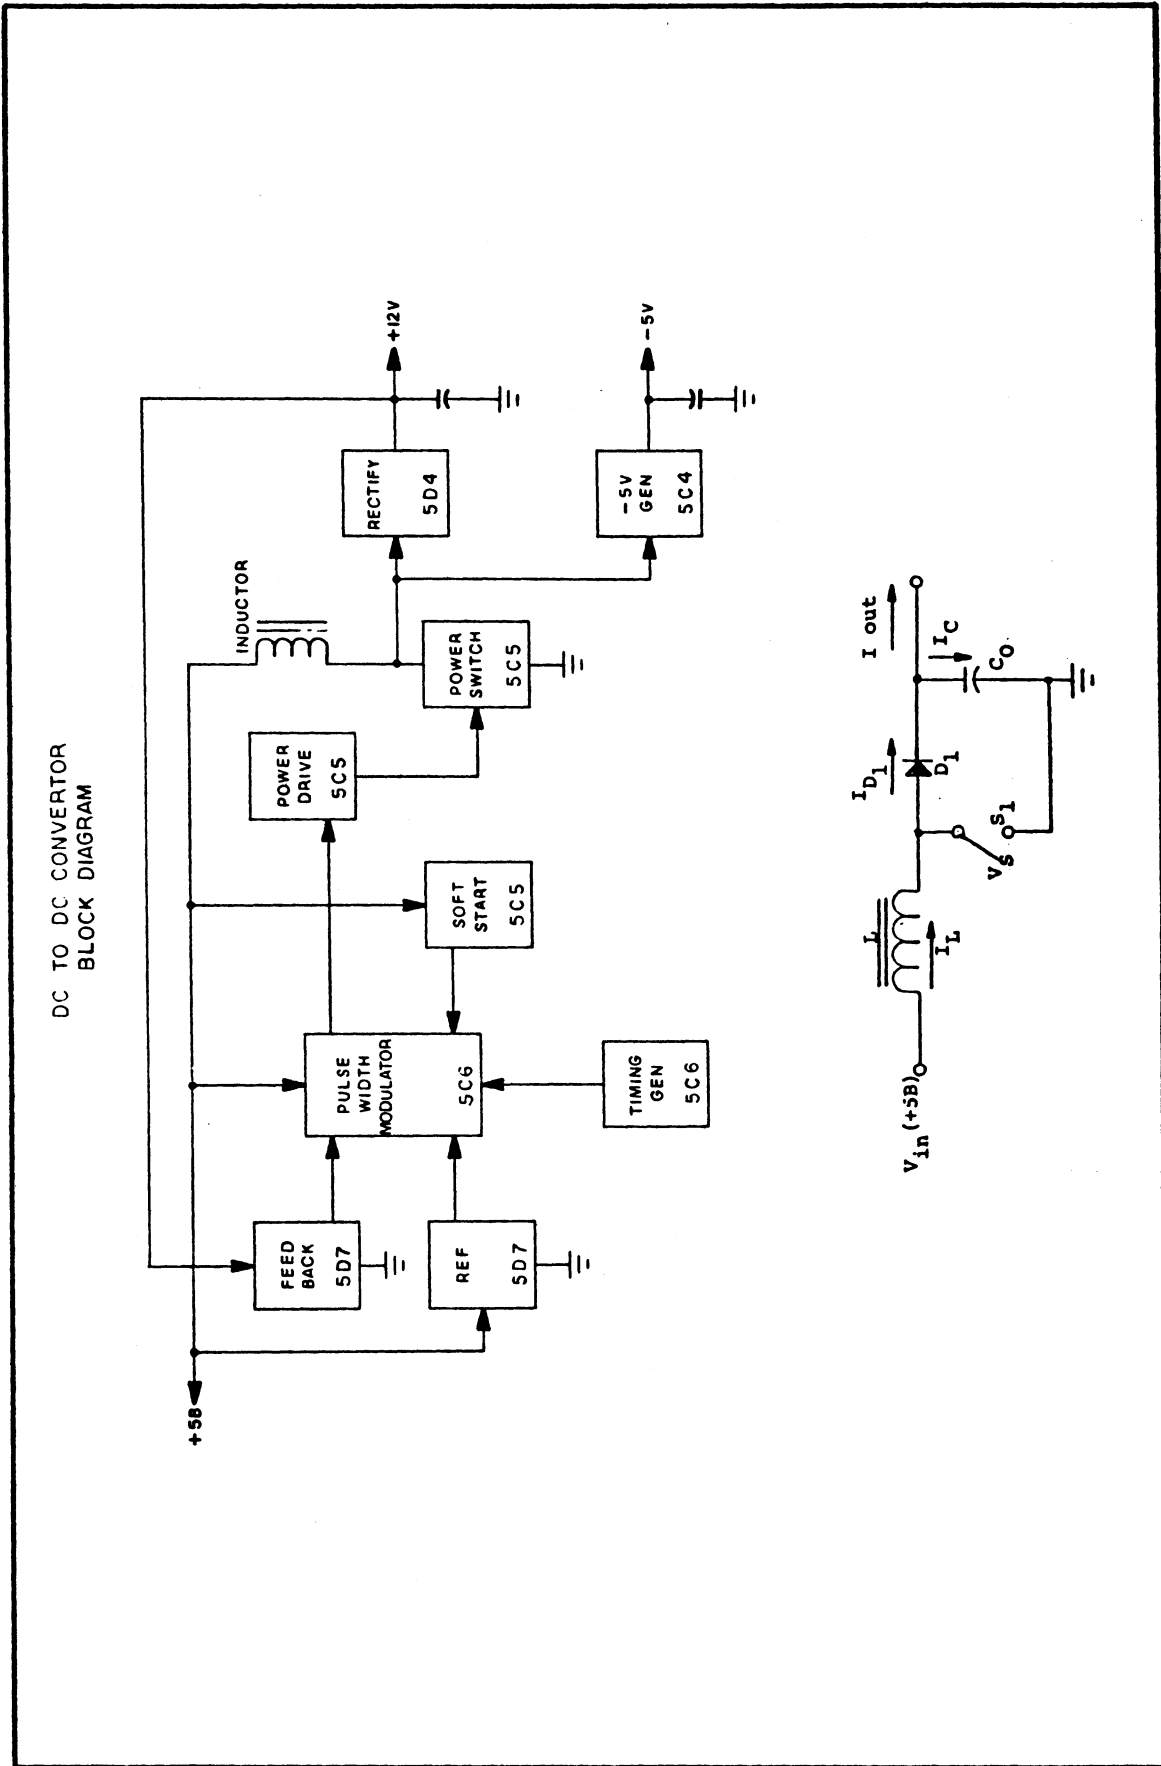

FIGURE 3.6
3.8 DC-TO-DC CONVERTOR (FIGURE 3-6)
The NS111L employs a DC-to-DC convertor switching regulator that operates as flyback convertor in a step-up mode. The basic circuit is shown in Figure 3.6.
In figure 3-6, the designations correspond to schematic reference designations as follows: $L=L1$, $S_1=Q2$ thru $Q5$, $D1=CR5$, $CR6$, C_o =all capacitance on +12V line.